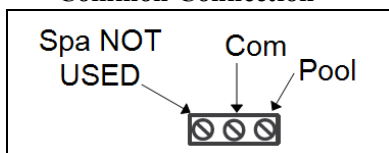

Figure 5
- Use the "Com" and "Pool" connection points from the gas heater. See Figure 5.